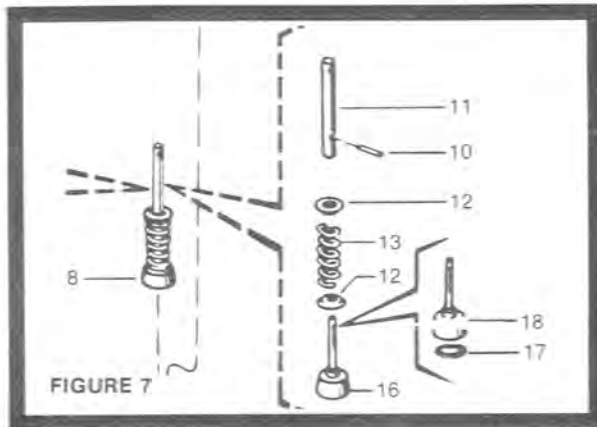
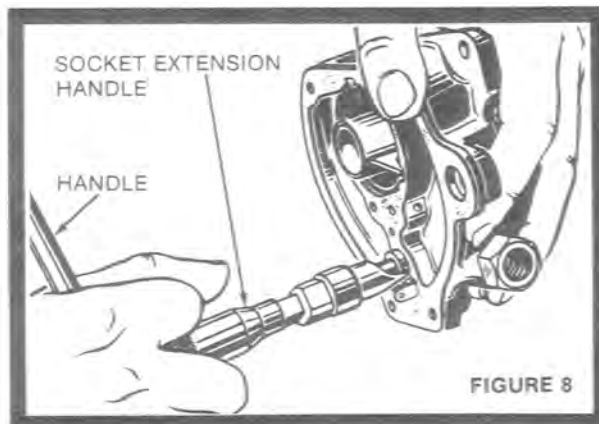

FIGURE 7
FIGURE 8
- 52) Assemble this type in accordance with this special section and figure 7.
- Hold a spring seat (12) against each end of the spring (13) and slide the pump plunger and stem assembly (16) through the spring.
- Slide the pump plunger rod assembly (11) over the end of the pump plunger rod (11) so that the hole at the lower end will be in alignment with the slot in the stem. Apply finger pressure against the top spring seat (12) to compress the spring (13) far enough to permit insertion of the spring seat locating pin (10). After the pin (10) is in place, release pressure on the spring (13) to hold the pin securely in position. Press down against the top of the pump plunger rod assembly (11) to make certain that the stem on the pump plunger and stem assembly (16) will slide freely in the end of the stem.
- 53) If the pump leather expanding spring (17) was removed, install it carefully under the pump leather.
- 54) Install fuel inlet fitting - strainer assembly (46), and gasket (47).
- 55) Install float valve seat (27), and gasket (28) using tool No. M-104. See figure 8.